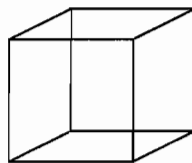

Fig. 6
- (ii) Explain why the image in Fig. 6 is perceived as a cube. [4]